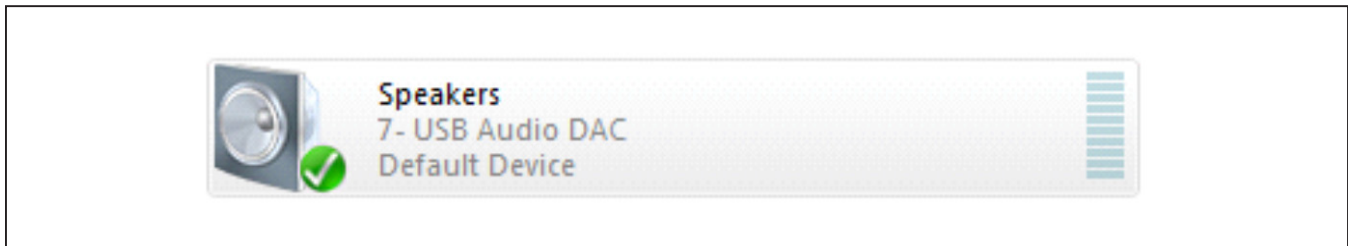

Figure 1. Playback Device
- 16) Open the Windows **Sound** dialog and select the **Playback** tab. A **USB Audio DAC** item, similar to Figure 1, should be listed as an available playback device.